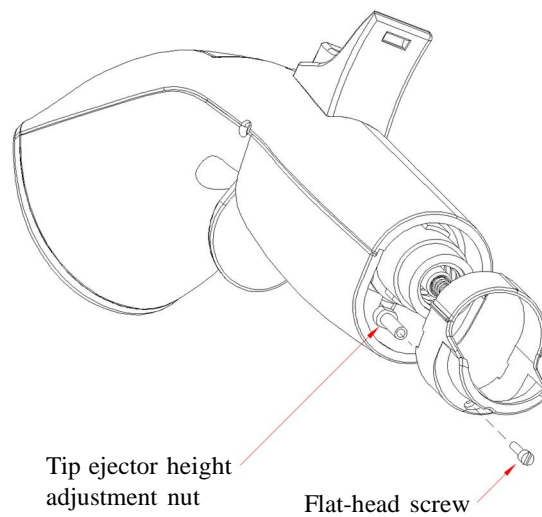

Figure 14 Tip ejector height adjustment
5. The lower part will come off easily and automatically as shown in Figure 14.
2. Remove the flat-head screw and bushing as shown in Figure 14.